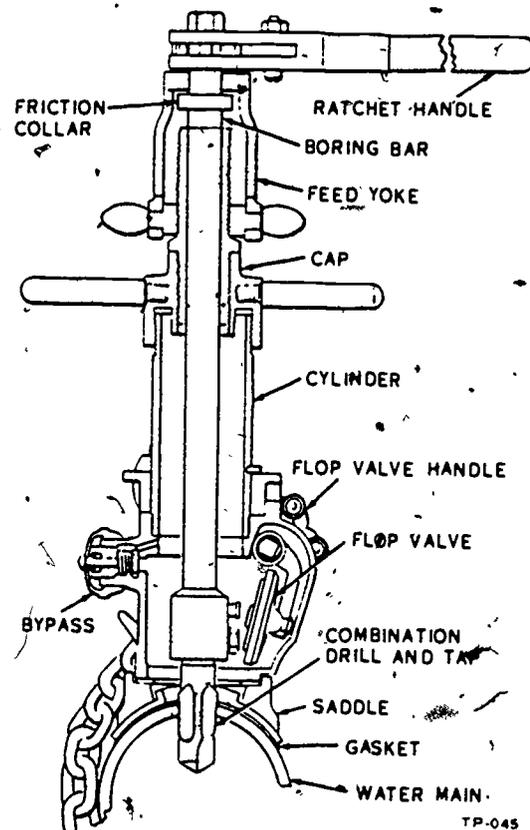

Figure 3-57 Water main self-tapping machine.
*Water main self-tapping machine.* The water main self-tapping machine shown in figure 3-57 is a specialized tool used for tapping a water main under pressure. It consists of a body, which straps around the pipe to be tapped; a butterfly valve, which can be opened and closed as needed; and an upper section, which is rotated to tap the pipe. By using this machine, you can tap a hole in a water main under pressure and install a corporation stop without losing over a quart of water.